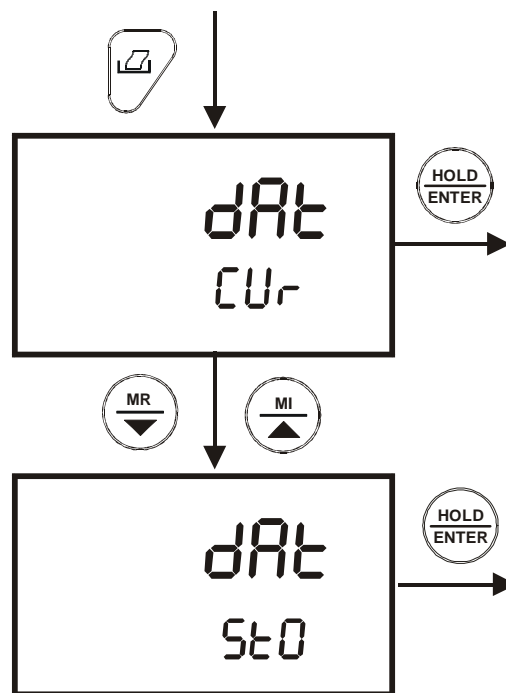

Figure 23: Print data based on timed interval or from memory
2. Use MI/▲ or MR/▼ key, select “dAt – StO” option and press HOLD/ENTER key. See Figure 23.